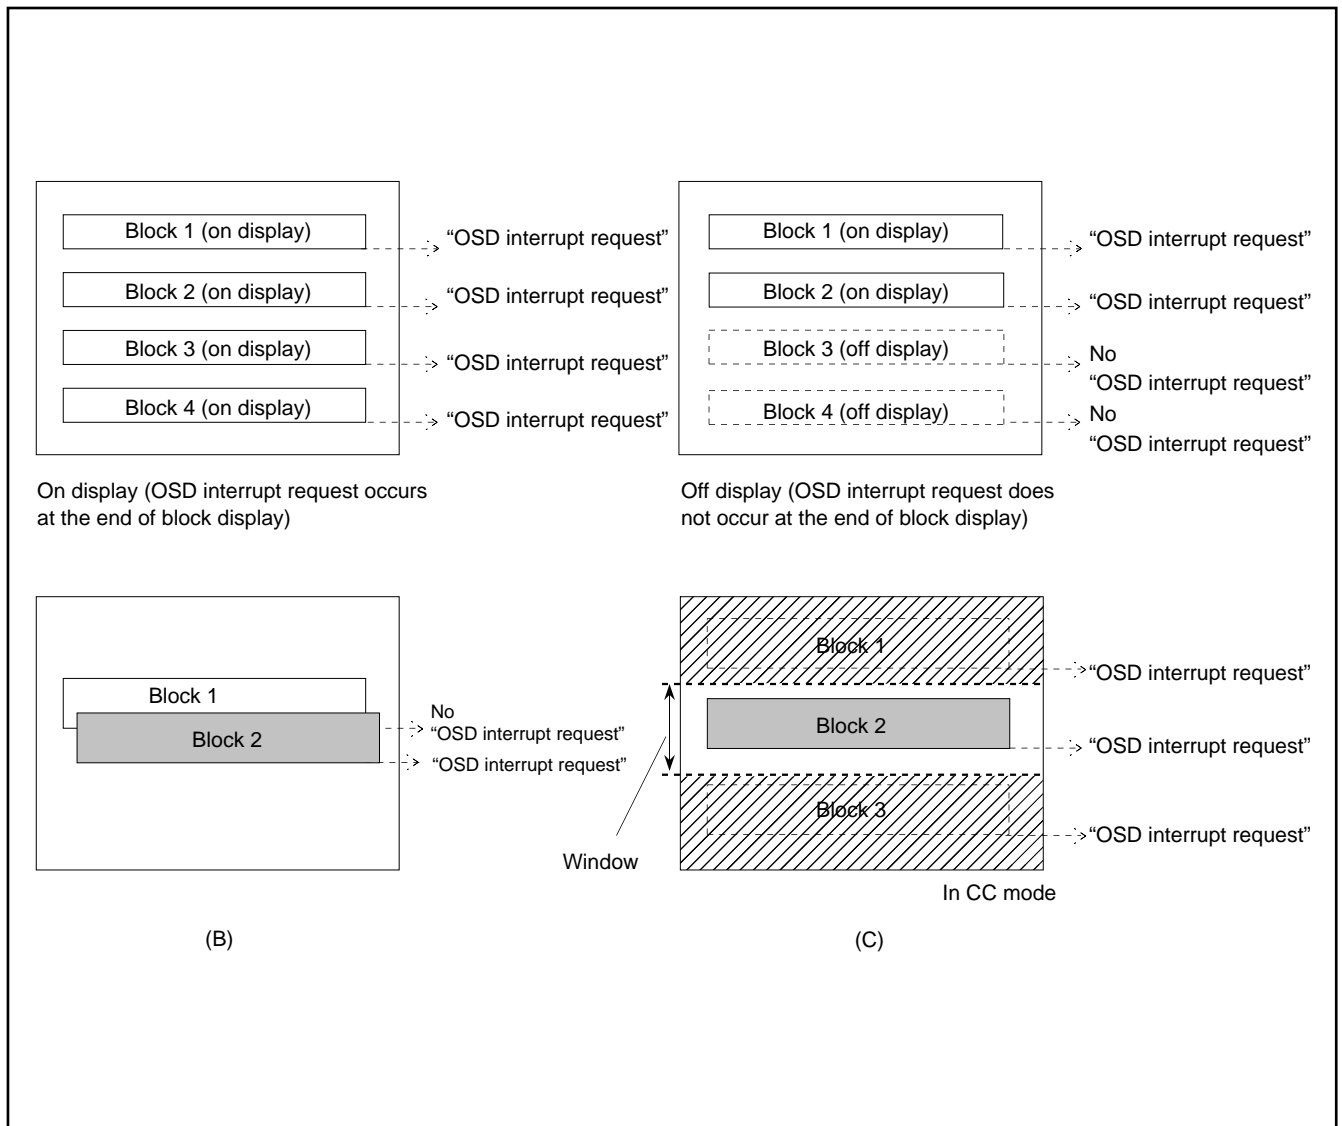

Fig. 75. Note on occurrence of OSD interrupt
- Notes 1:** An OSD interrupt does not occur at the end of display when the block is not displayed. In other words, if a block is set to off display by the display control bit of the block control register (addresses 00D0₁₆ to 00DF₁₆), an OSD interrupt request does not occur (refer to Figure 75 (A)).
- 2:** When another block display appears while one block is displayed, an OSD interrupt request occurs only once at the end of the another block display (refer to Figure 75 (B)).
- 3:** On the screen setting window, an OSD interrupt occurs even at the end of the CC mode block (off display) out of window (refer to Figure 75 (C)).